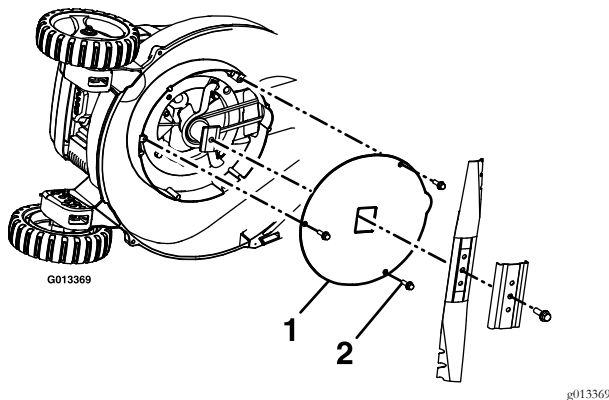

Figure 33
5. Remove the blade bolt, blade support, and the blade (see Figure 33).
6. Remove the three screws holding the cover plate onto the unit (see Figure 33).